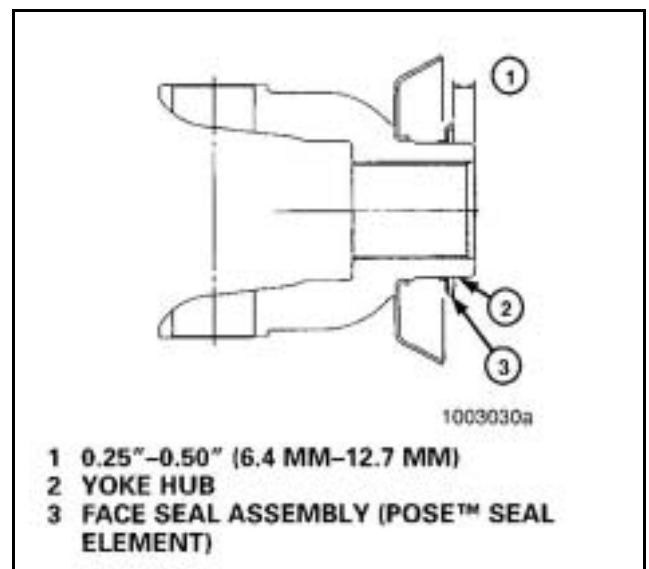

Figure 48
3. Install the POSE™ seal on the hub of the yoke or flange by hand. The lips of the seal must face toward the end of the hub (opposite shoulder). Slide the POSE™ seal on the hub until the lips are from 0.25 inch to 0.50 inch (6.4 mm-12.7 mm) from the end of the hub. **Do not install the POSE™ seal against the shoulder. Figure 48.**